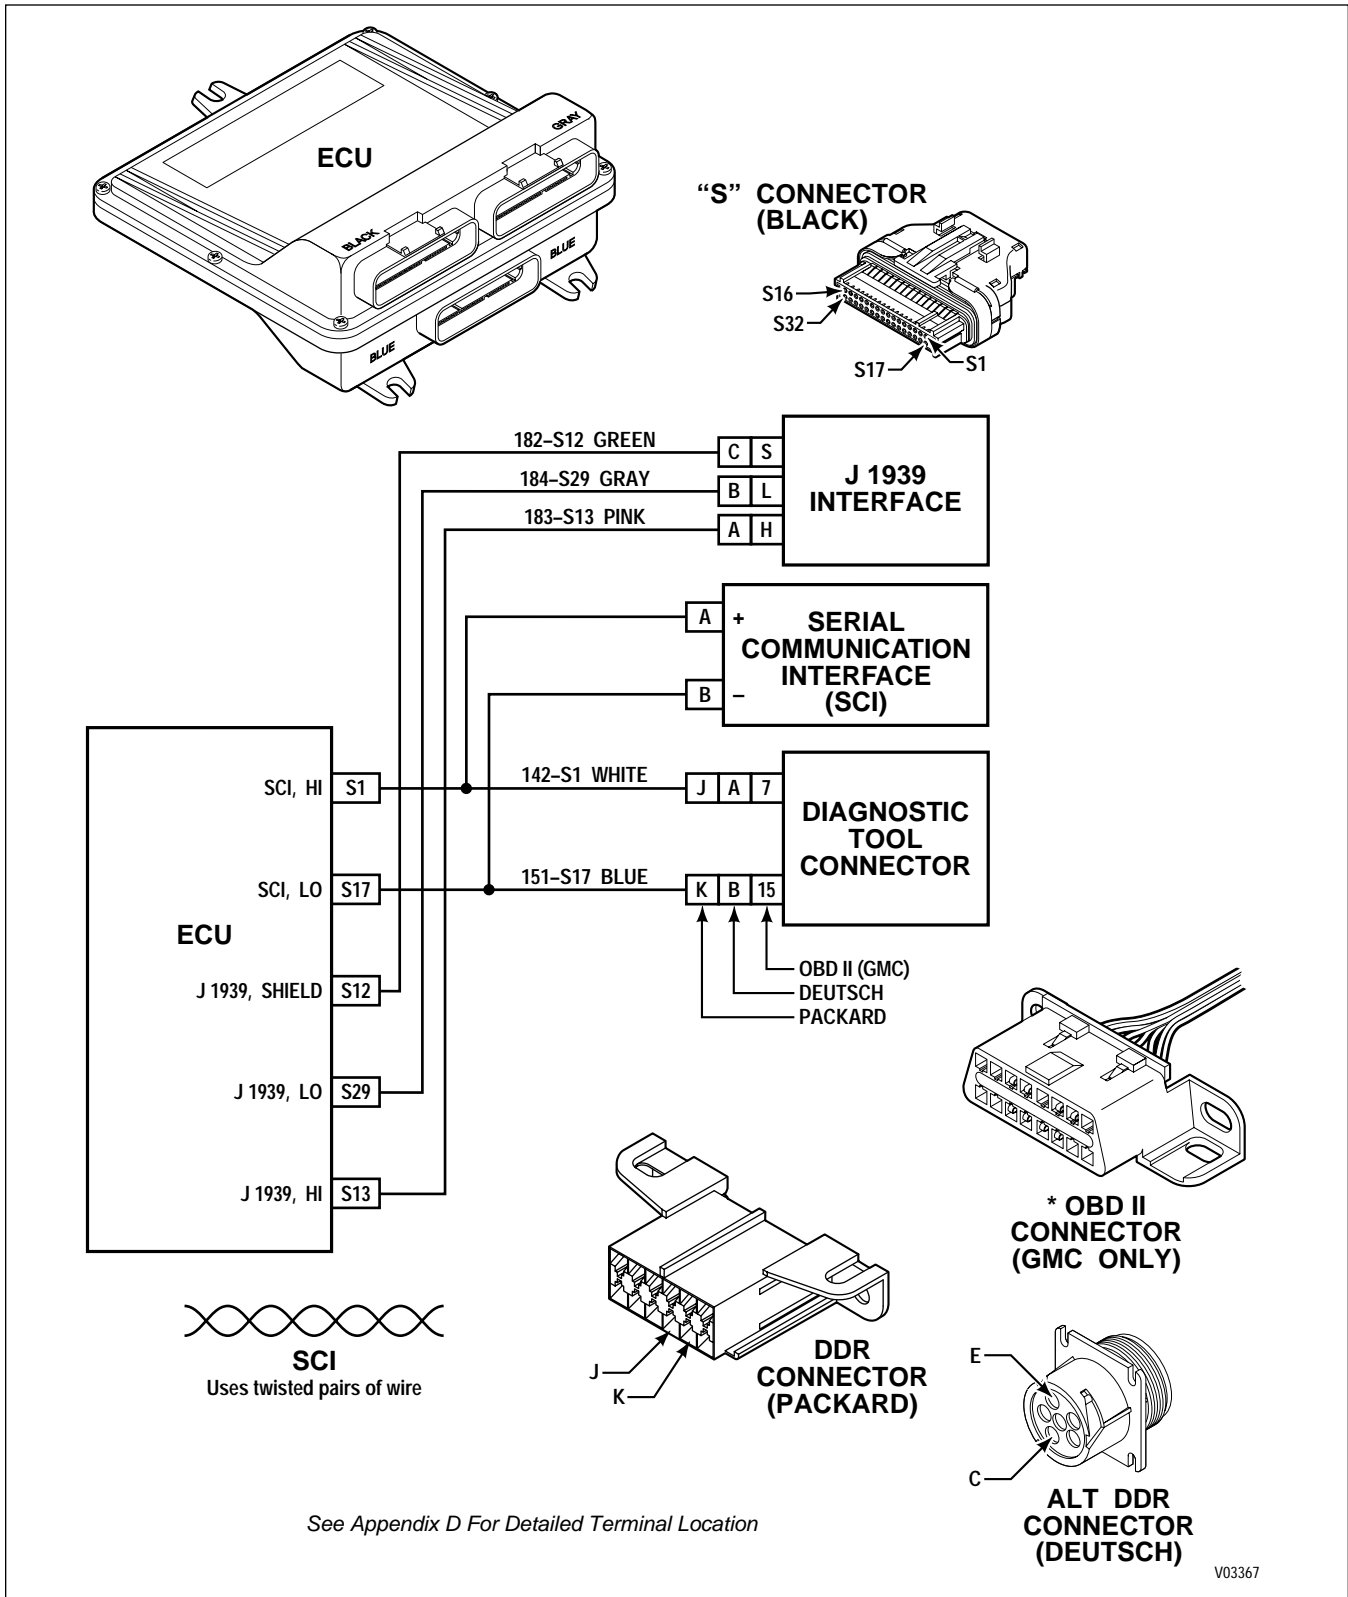

Figure 6-24. Code 66 Schematic Drawing
**CODE 66 XX — SCI (SERIAL COMMUNICATION INTERFACE) FAULT** (Figure 6-24)